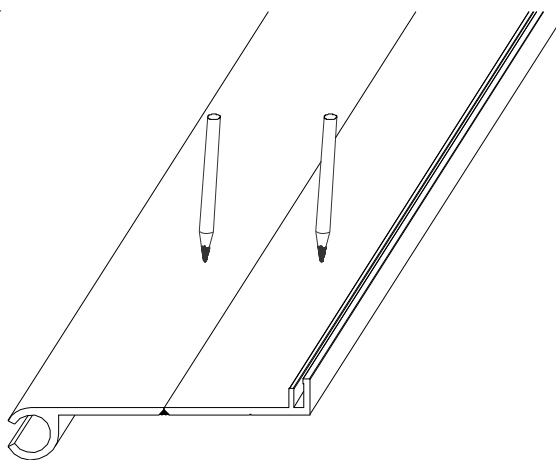

Figure 3
**STEP 3.** Select a section of the base member. If the anchor holes have not been predrilled in the base members at the factory, mark the locations for the anchor holes on the selected base member (see Figure 3). Standard anchor spacing is 20" O.C. with an anchor at a nominal 3" from each end of the base member. Repeat this procedure for each base member section.